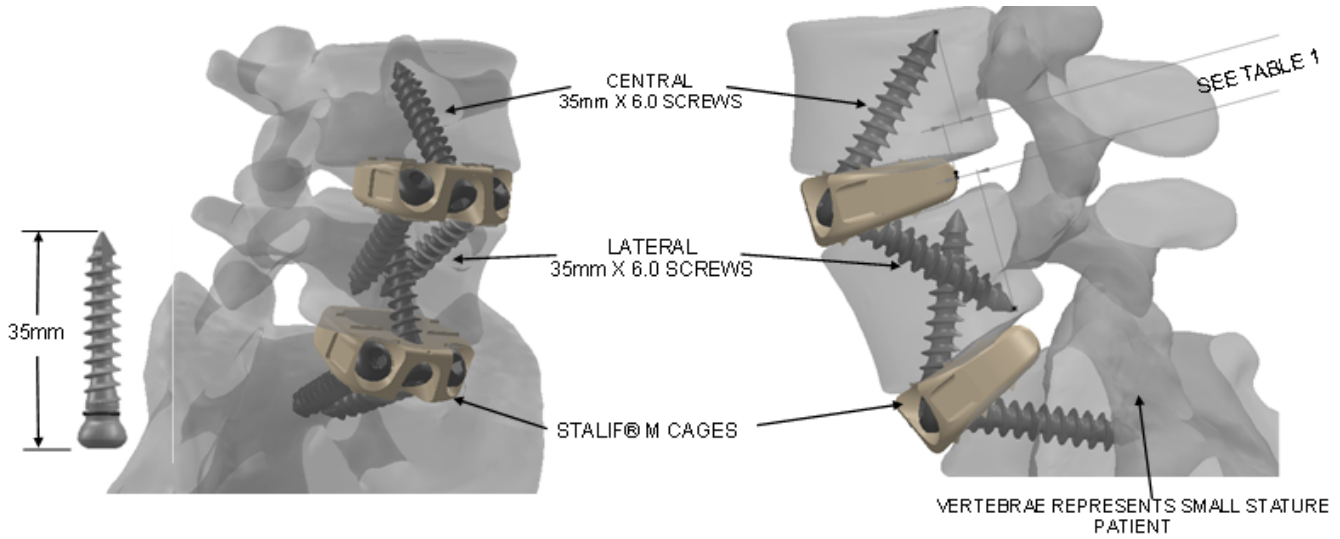

Figure 1. STALIF MIDLINE® 35mm Screws – Maximum Extension Beyond Cage
- STALIF® M/STALIF® M-Ti/STALIF® M FLX cages are recommended for use with 25mm or 30mm long screws. If patient pathology requires 35mm screws, use imaging to ensure unicortical fixation occurs only. STALIF MIDLINE® 35mm screws can extend beyond the back wall of the cage to a maximum as shown in Figure 1. STALIF MIDLINE® 35mm screws must not be used with 30mm STALIF® M/STALIF® M-Ti/STALIF® M FLX cages.